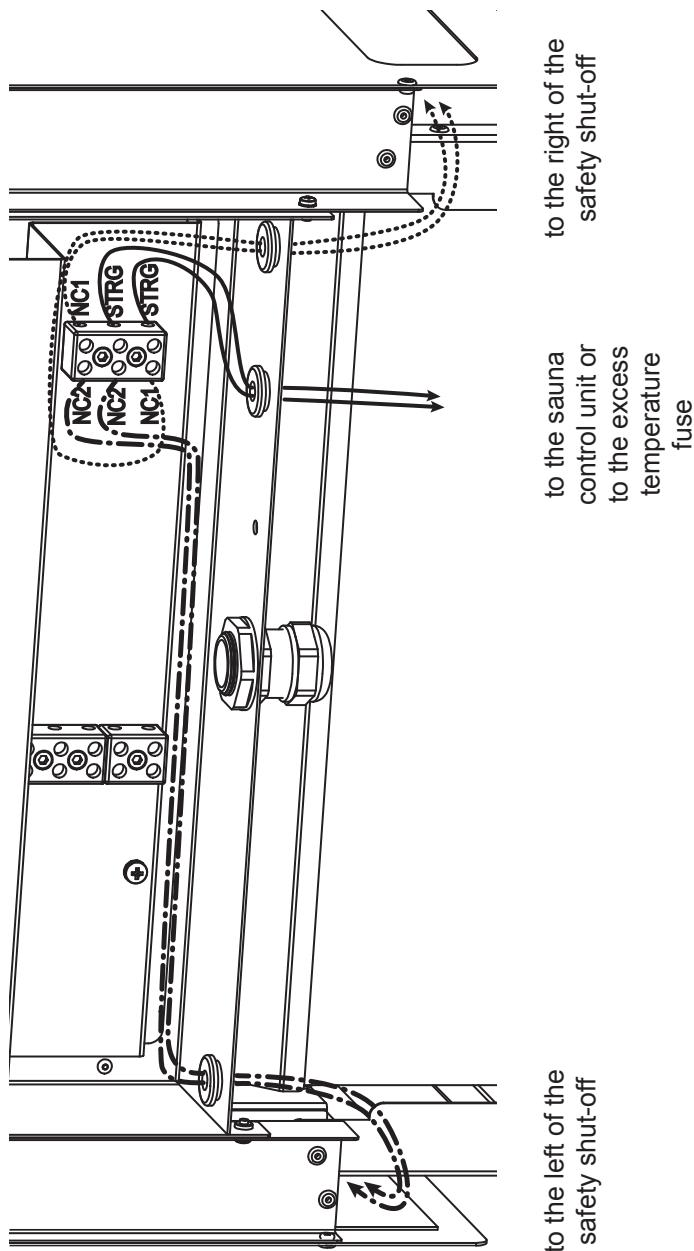

Fig. 3 Electrical connection of the safety shut-off
- Please observe **Fig. 3** on page 11, the Connection diagram on page 14 and the operating instructions for your sauna control unit.